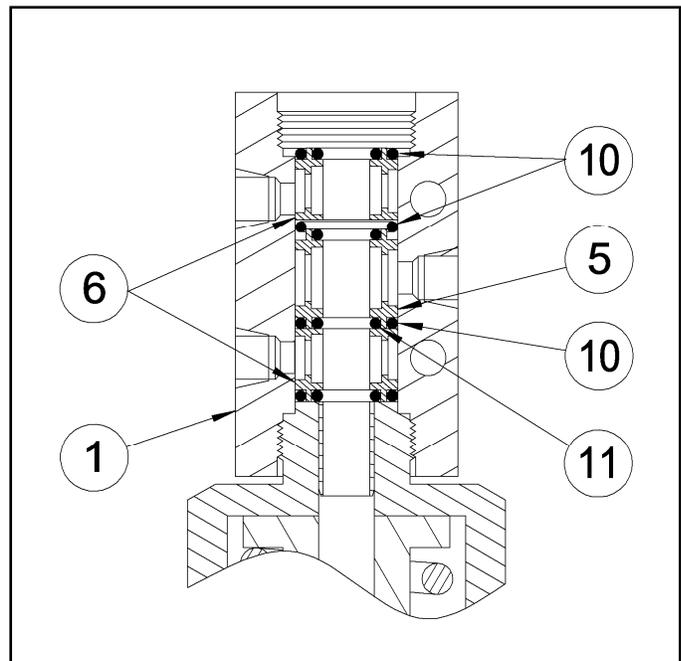

Figure 6: Placing Last End Sleeve
11. Install new inner o-rings (item 11), without lube, and lubricated outer ring (14) in the second end sleeve (item 9). Slide the end sleeve into the bore of the body (item 1) with the o-ring grooves out toward the cylinder threads. Insert the sleeve until the outer o-ring is about to enter the bore. (See Figure 6)